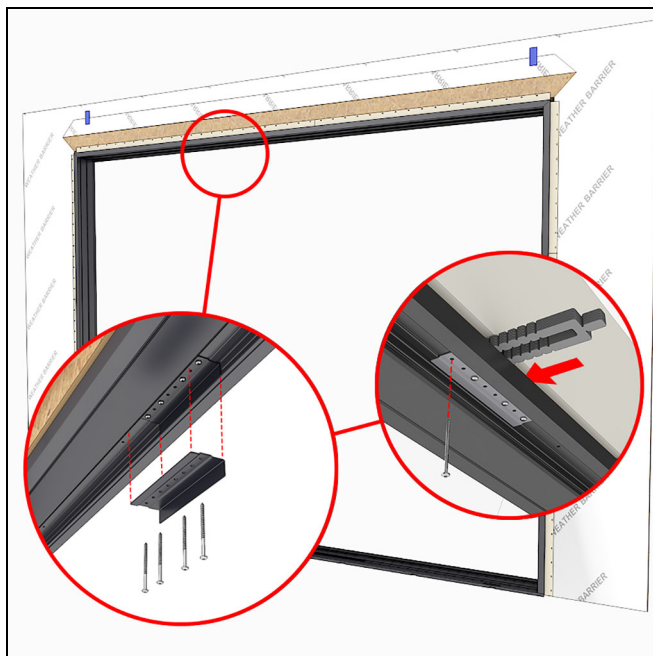

Figure 112
3. Fasten through the bracket into the head jamb framing with #10 x 3" installation screws at each pre-drilled location. Shim above the bracket as needed. See Figure 112.